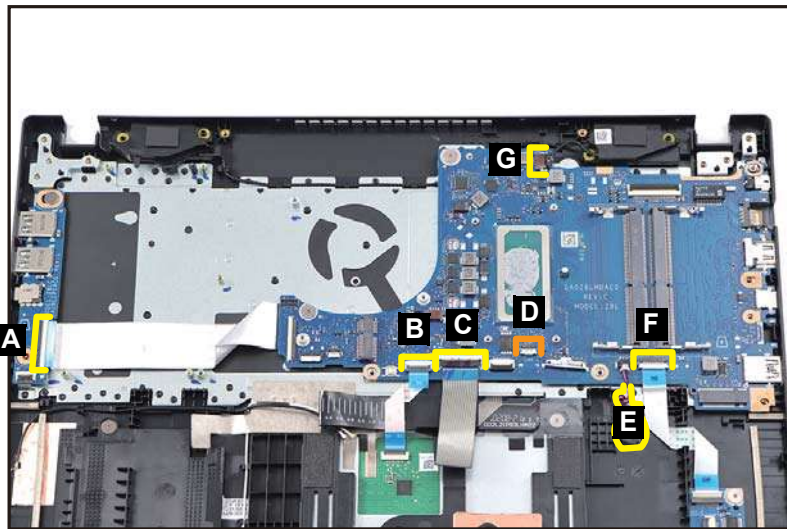

Figure 3-38. Mainboard Removal
1. Disconnect the DB FFC from the IO board connector (A) (Figure 3-38).
2. Disconnect the touchpad FFC from the mainboard connector (B) (Figure 3-38).
3. Disconnect the keyboard FPC from the mainboard connector (C) (Figure 3-38).
4. Disconnect the keyboard backlight FPC from the mainboard connector (D) (Figure 3-38) (optional).
5. Pry to detach the adhesive tape underneath the RTC battery. Then remove the RTC battery (E) (Figure 3-38).
6. Disconnect the card reader board FFC from the mainboard connector (F) (Figure 3-38).
7. Disconnect the speaker cable from the mainboard connector (G) (Figure 3-38).